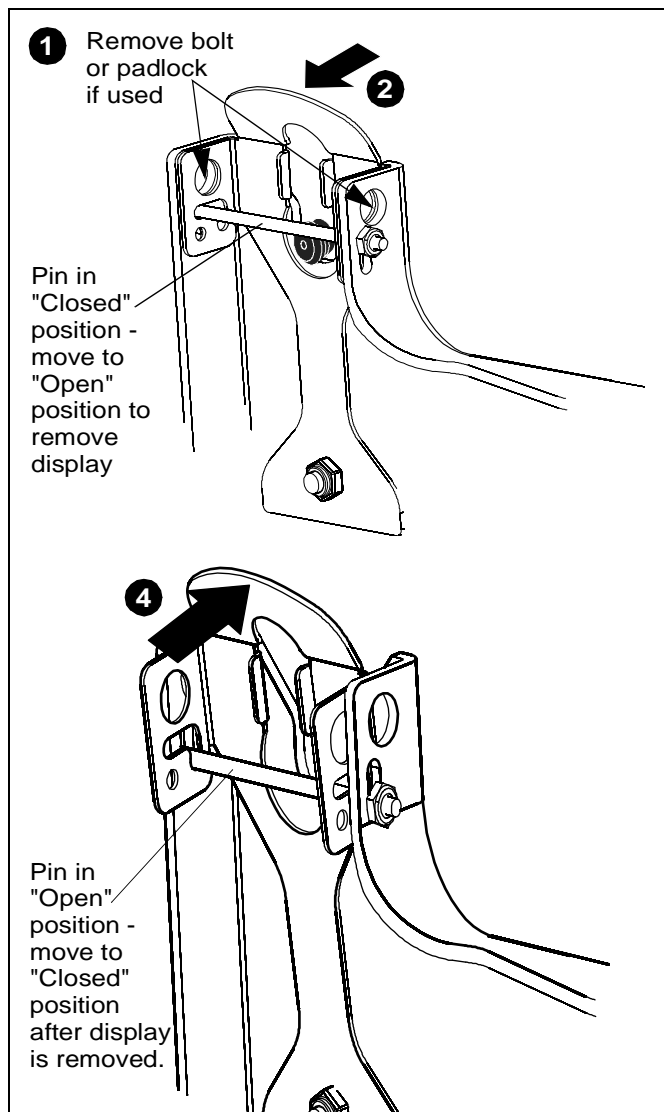

Figure 15
(See Figure 15)
2. Pull back on flag on upper mounting hole and press pin down into "Open" position. (See Figure 15)
4. Lift up on pin and place flag back against faceplate to return it to "Closed" position. (See Figure 15)